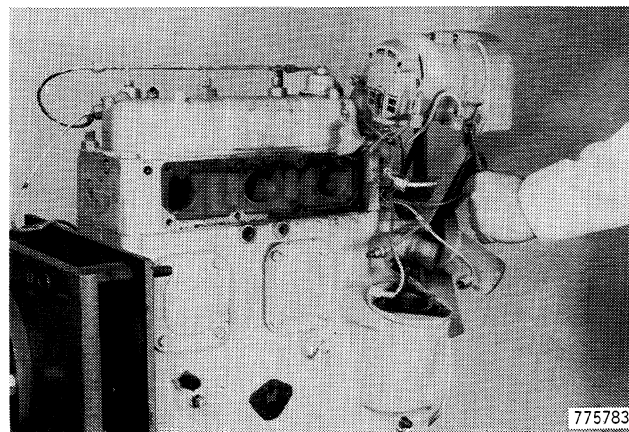

Figure 37
12. Remove the cap screw from the alternator adjusting strap, Figure 37.